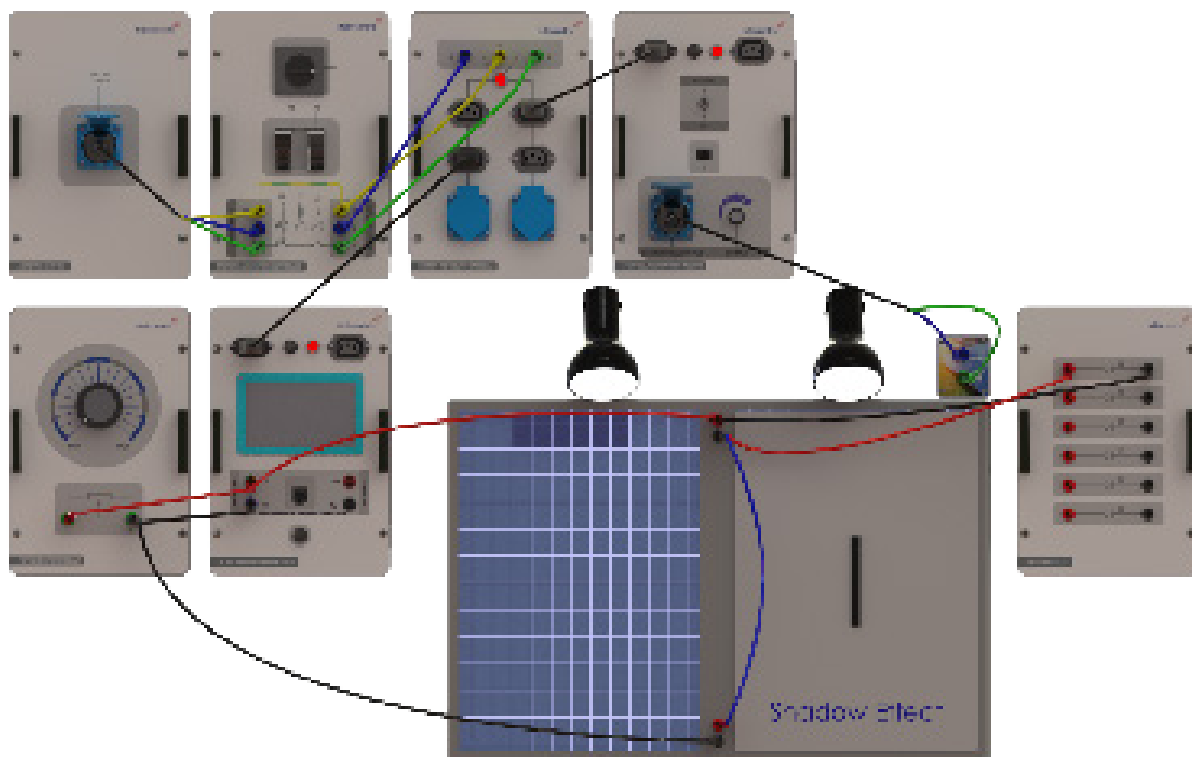

Figure-5
- 10) Use the shadowing device to shadow panel-2 as shown in figure-5. Record in chart-1 the value observed on the voltmeter placed on the AC/DC Measurement Module under this circumstance.